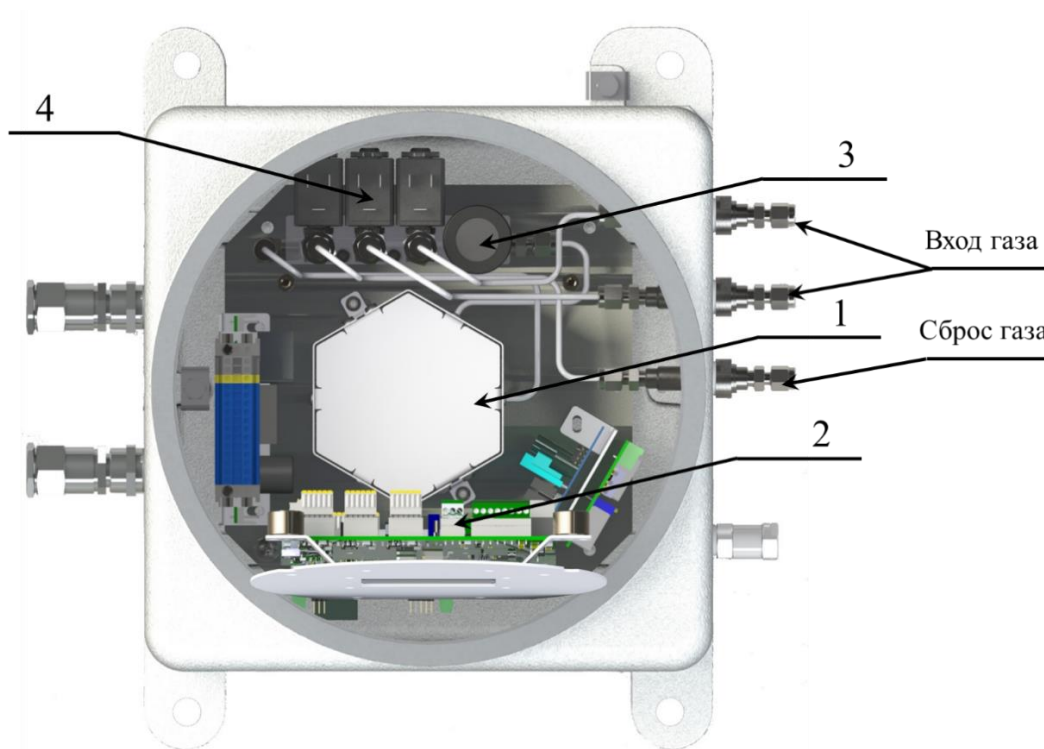

Fig. 4. The internal structure of the "HygroScan-S" analyzer
The analytical unit of the analyzer, as well as the electronics unit are inside the explosion-proof enclosure. Fig. 4
Analytical unit of the analyzer (1, see Fig. 4) consists of the following elements:
- The pressure pressure transducer (sensor) (3, see Fig. 4) is located outside the measuring cell thermostat.
The electronics unit (2, see Fig. 4) includes the following elements: